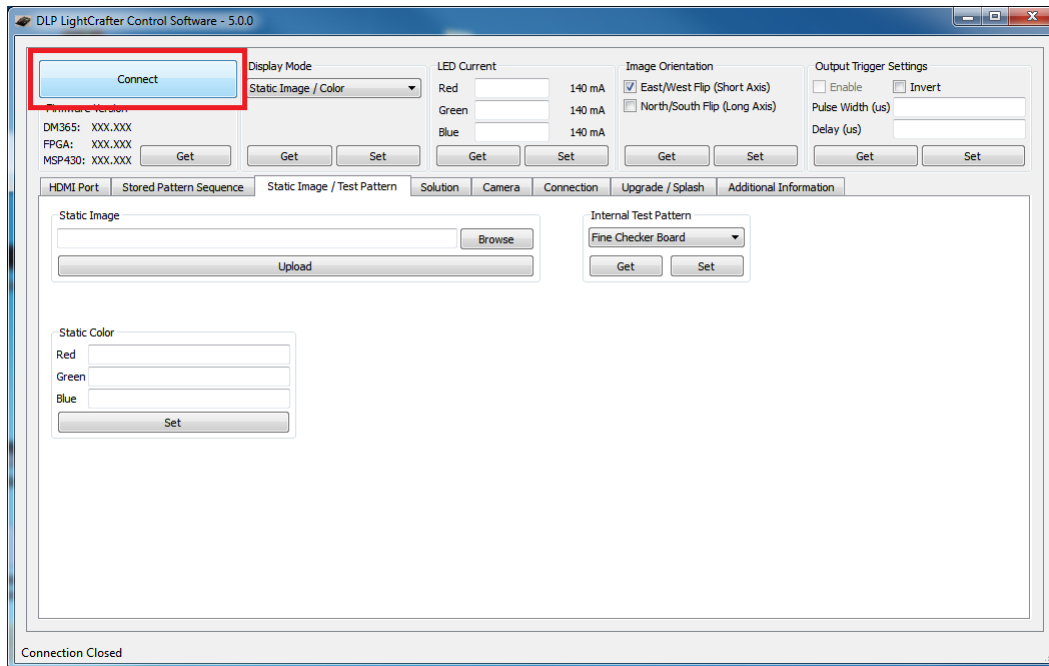

Figure 2-1. DLP LightCrafter GUI Connect Button
4. Click the Connect button. See Figure 2-1.